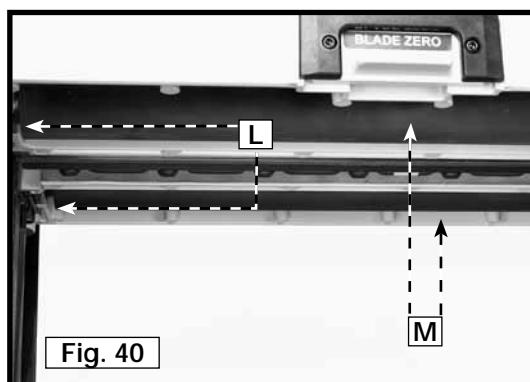

Fig. 40
9. Place the planer on its back and put oil on the feed roller bushings (L) Fig. 40, two of which are shown, at each end of the feed rollers.
You will need to clean the infeed and outfeed rollers (M) Fig. 40 periodically. Use soap, water, and a scotch-brite pad.